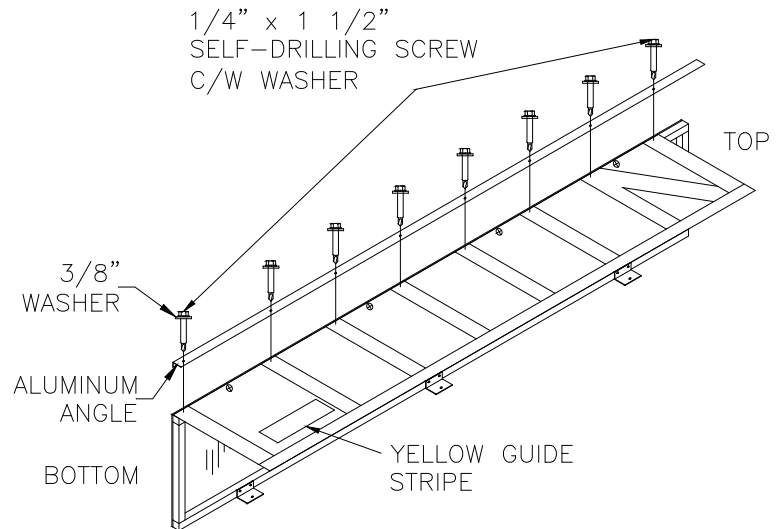

FIG. O1B
- a. **Match** holes in Aluminum Angle with holes in Vertical Panel stays (Figure O1b).